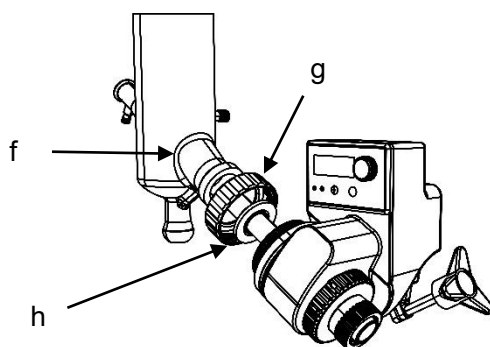
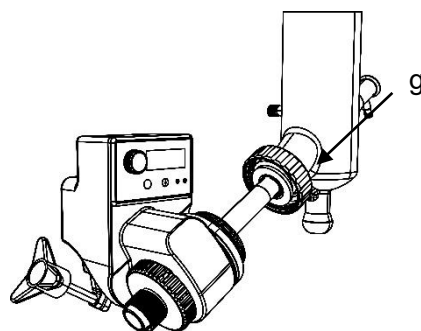

Fig.16
Fig.17
- Mount the condenser (f) (Fig. 16 and Fig. 17)